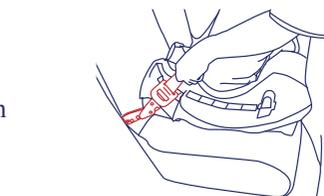

Fig. 49-1
15.3.5) Proper installation of the Base requires that the LATCH webbing be very tight. To tighten the webbing, push down hard with your knee or hand on the Base while pulling upward on each webbing end. The webbing will automatically lock in place. **Check that there is no slack in the webbing on both sides of the base and that the base is tightly installed.** Please see figure 49-1 and 49-2.